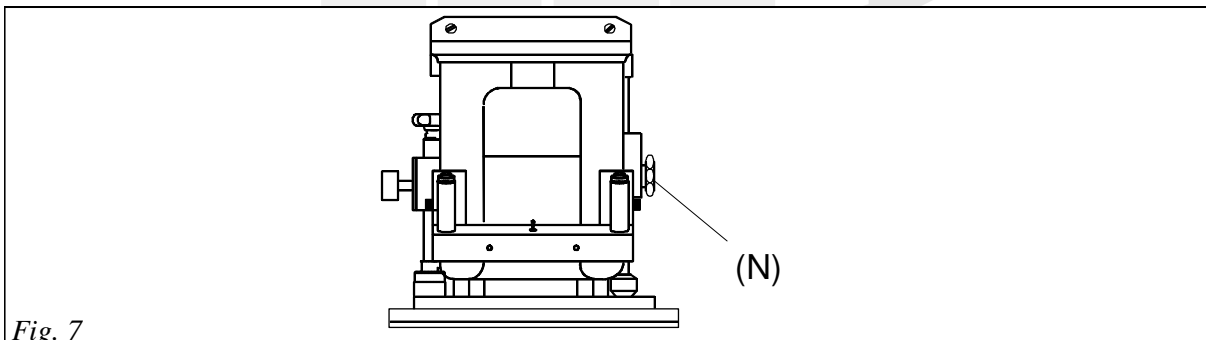

Fig. 7
- e) unloosen and immediately lock the cutting stroke-end positioning hand-wheel (N) (Fig. 7).